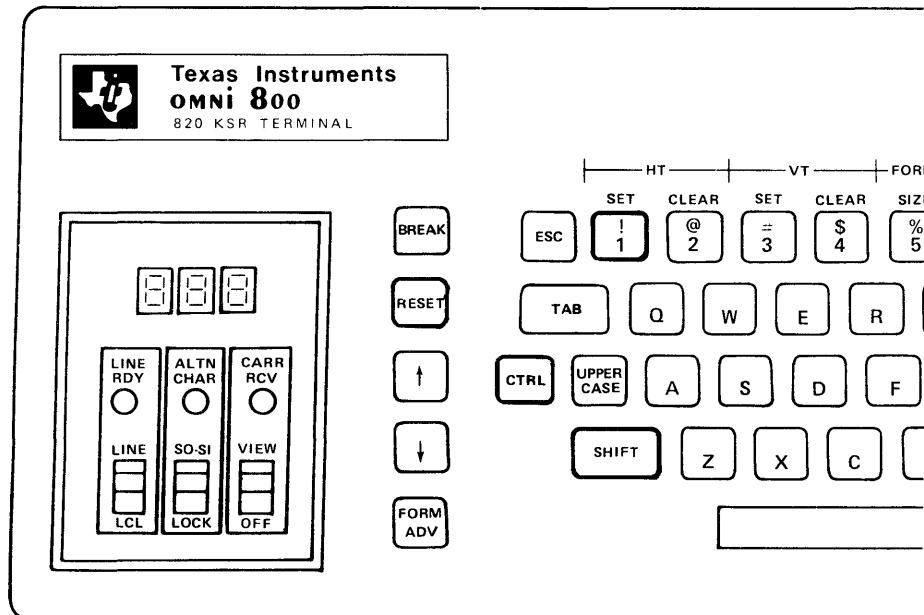

Figure 2-6. Controls for Model 820 KSR Self-Test
2.8.1 MODEL 820 KSR. Referring to Figure 2-6, locate the CTRL, SHIFT, !/1, and RESET keys on the operator's panel and proceed as per Section 2.8.3.